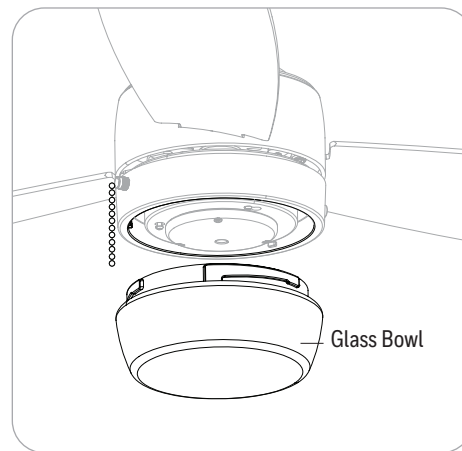

Figure 5.8
8. Attach the glass bowl to the light kit by twisting the glass bowl tightly in a clockwise direction until it is secure (Figure 5.8).